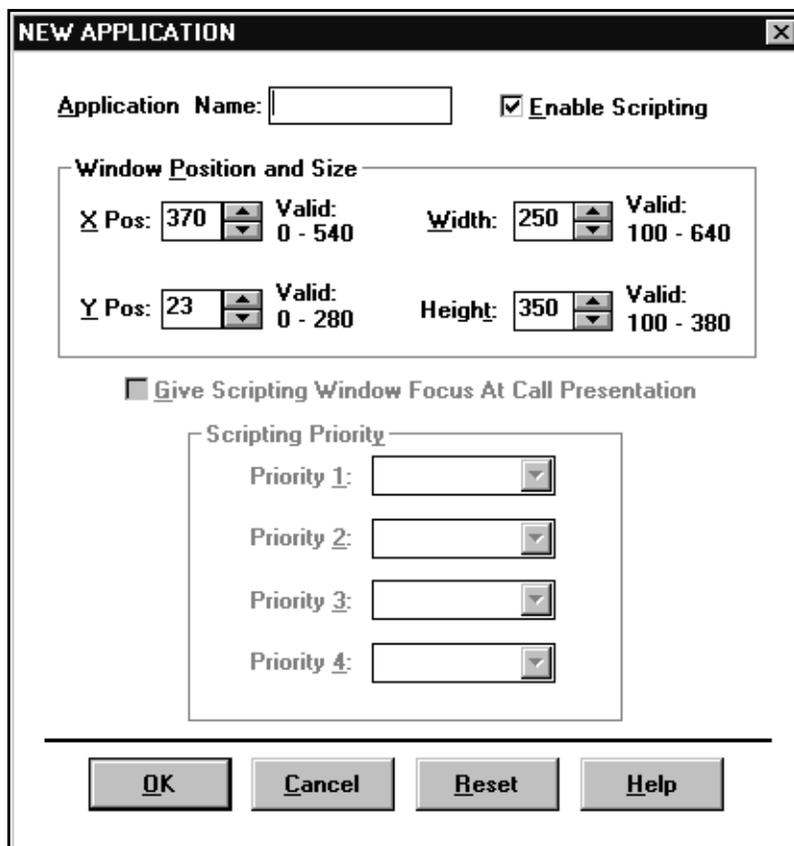

FIGURE 88. Example of the SCRPTINI New Application window
1. Enter the desired application name in the Application Name box. The application name can contain up to eight characters. (See Figure 88.). Note, if you enter one of the pre-existing applications, NTDA or NTOA as the application name, the current settings for that application appear.